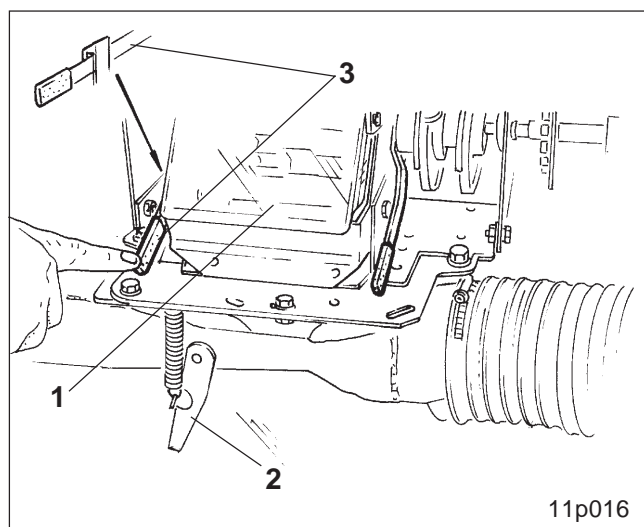

Fig. 50.1
- the clear plastic flap (Fig. 50.1/1)
- the injector sluice flap (Fig. 50.1/2) and
For opening the residue emptying flap press lever (Fig. 50.1/3) behind the metering unit downwards and arrest.